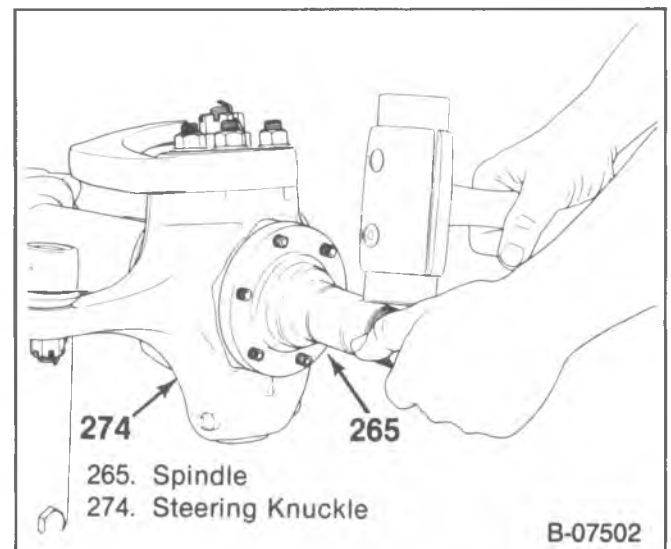

Figure 48—Removing the Spindle
2. Spindle (265) from the steering knuckle (274).
- Nuts (261) and plate (263) for V10/1500–20/2500 models.
- Nuts (261), washers (262), plate (263) and the bracket (264) for V30/3500 models.
- Tap the end of the spindle with a plastic or rubber mallet to break it loose from the steering knuckle (274) (figure 48).
- Nut (292) to 40 N·m (30 ft. lbs.).
3. Torque the adjusting ring (300).
- Use J-23447 (figure 48).